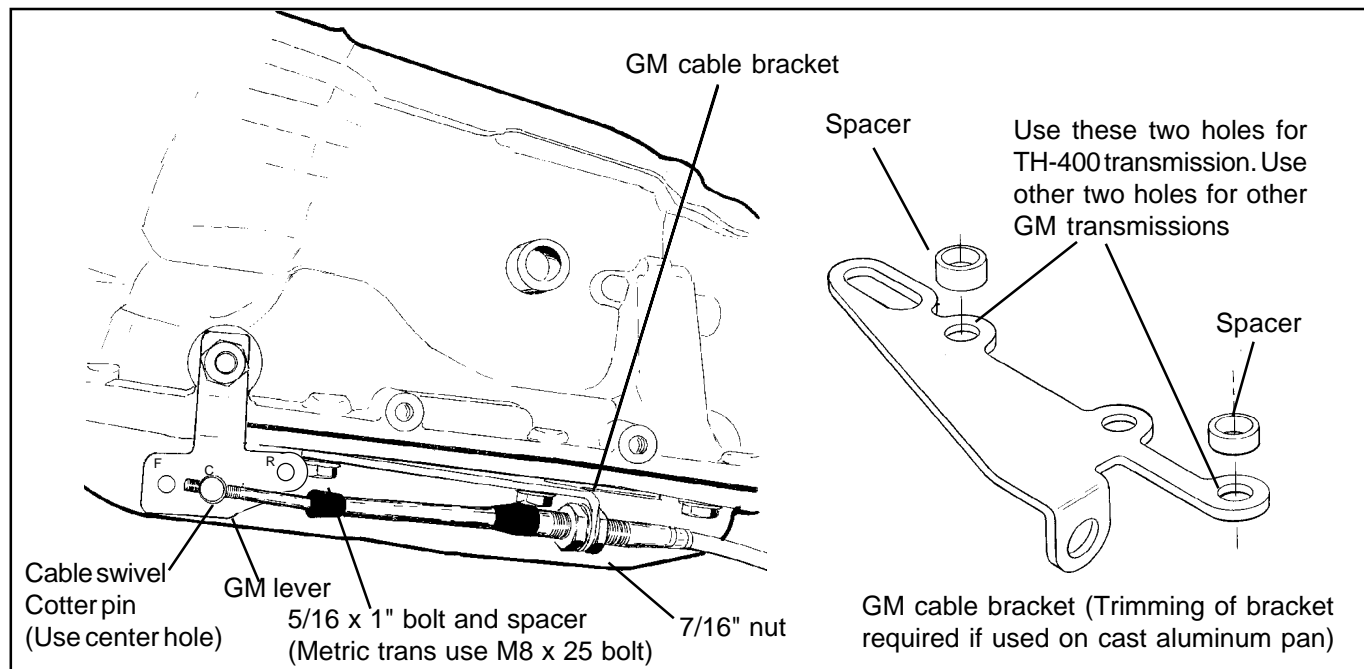

**Figure 2**
**STEP 7.** Install the shifter mechanism into the vehicle. Slide the shifter cable through the carpet and the hole in the floor. Bolt the shifter down using four 1/4" hex bolts and nuts. If required use 1/4" washers as shims between the shifter mechanism and the floor to level the shifter. **ROUTE THE CABLE AS SHOWN IN FIGURE 2, AVOID SHARP BENDS WHICH WILL KINK AND DAMAGE THE CABLE.** Use cable clamps or tie wraps to secure the cable housing to the chassis to avoid contact with hot engine or exhaust system. Seal the cable hole shut to avoid the entry of exhaust fumes or water. For General Motors vehicles go to **Step 8**, for Ford vehicles go to **Step 13**, for Chrysler vehicles go to **Step 19**.
**STEP 16.** Remove the two rubber boots, one large nut, and a large lockwasher from the threaded end of the shifter cable. Route the shifter cable according to Figure 2. Avoid sharp bends and route the cable away from hot engine exhaust
**STEP 21.** Remove the two rubber boots, one large nut, and a large lockwasher from the threaded end of the shifter cable. Route the shifter cable according to **Figure 2**. Avoid sharp bends and route the cable away from hot engine and exhaust parts. The cable may be secured up out of the way with nylon cable ties. Slide the end of the cable into the cable bracket, install the lockwasher and the large nut over the end of the cable. Position the cable so the threaded portion of the cable housing is centered in the cable bracket. Tighten both large nuts to hold the cable in this position. Install the two rubber boots onto the end of the cable.